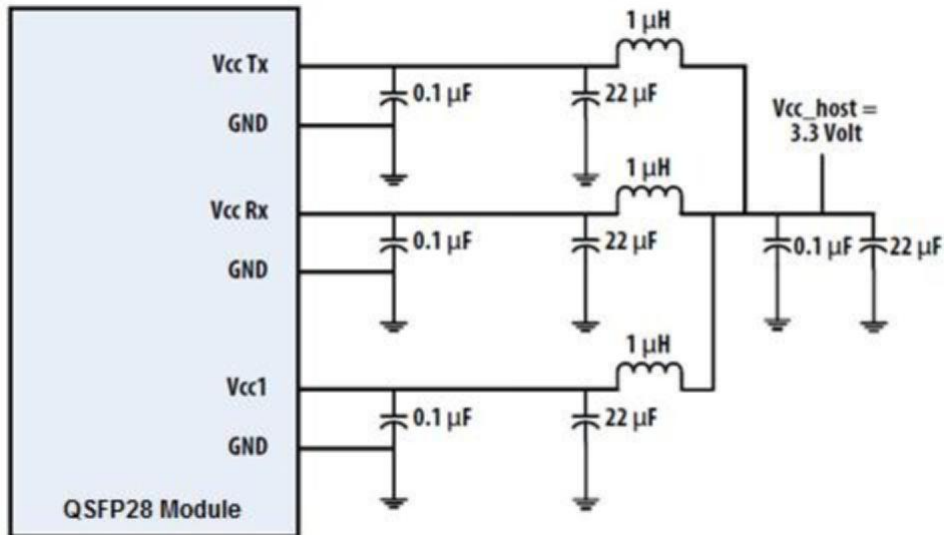

Figure 3. Recommended Power Supply Filter
2.VccRx, Vcc1 and VccTx are the receiver and transmitter power suppliers and shall be applied concurrently. Recommended host board power supply filtering is shown in Figure 3 below. Vcc Rx, Vcc1 and VccTx may be internally connected within the QSFP28 transceiver module in any combination. The connector pins are each rated for a maximum current of 1000mA.